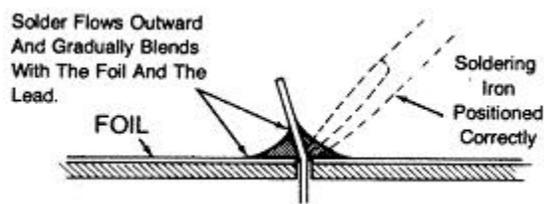

Figure 11. A good solder joint.
- a. Qualities of good solder joints (See Figure 11):